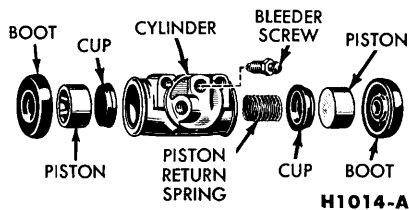

FIG. 16—Double Servo Brake Cylinder
from the end(s) of the brake cylinder. Remove the piston(s), cup(s), and piston return spring from the cylinder (Fig. 16 or 17).
4. Install the bleeder screw (Fig. 16 or 17) in the brake cylinder.